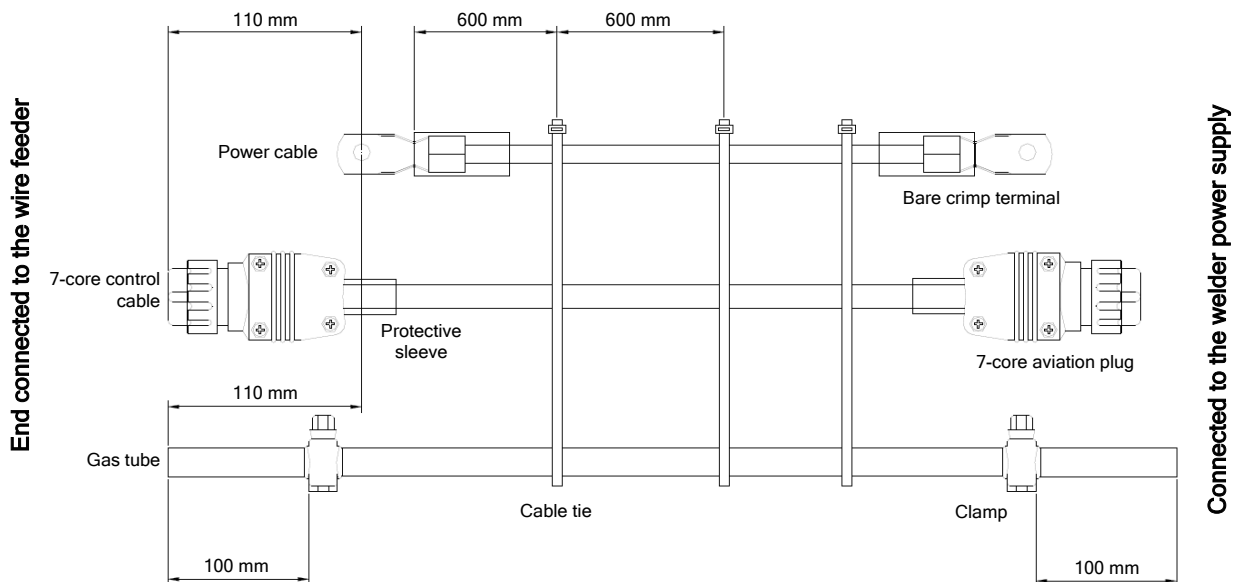

Figure 2-2 Schematic diagram of tying cables and tube
6. Use cable ties to tie the cables and tube together at every 600 mm. At the end connected to the wire feeder, the 7-core control cable must be 110 mm longer than the power cable and the gas tube must be 110 mm longer than the power cable. At the end connected to the welder, the excessive lengths of the control cable and gas tube are not handled. Figure 2-2 shows the way to tie the cables and tube.